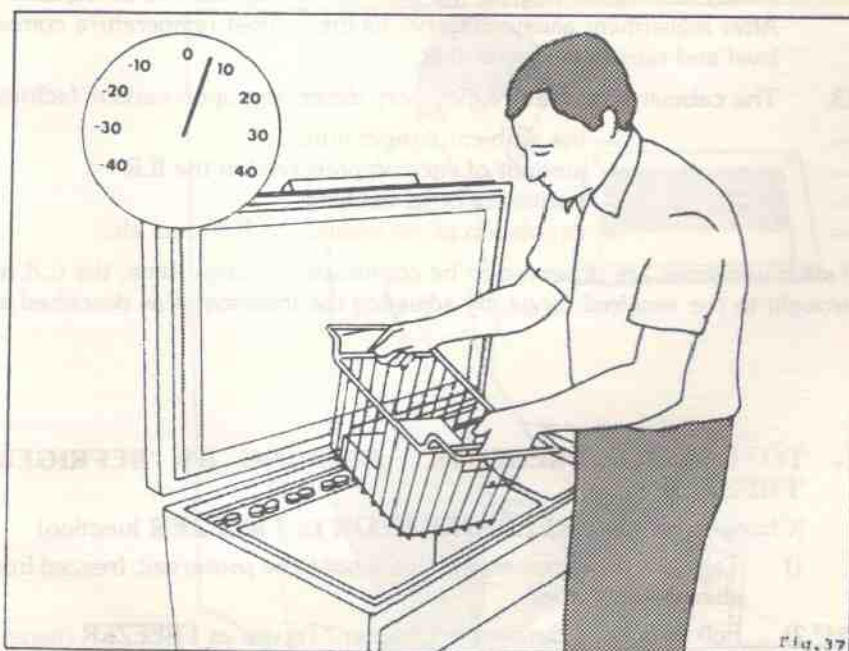

Fig. 37
9. When the temperature inside the ILR will be observed to be steady within $+4^{\circ}$ to $+8^{\circ}\text{C}$ for several hours, then only the vaccines to be preserved should be transferred to the ILR. The vaccines like DPT, which get damaged if frozen, are advised to be kept in the baskets provided, such that they will not touch any of the colder surfaces on the sides and the bottom. (fig. 37).